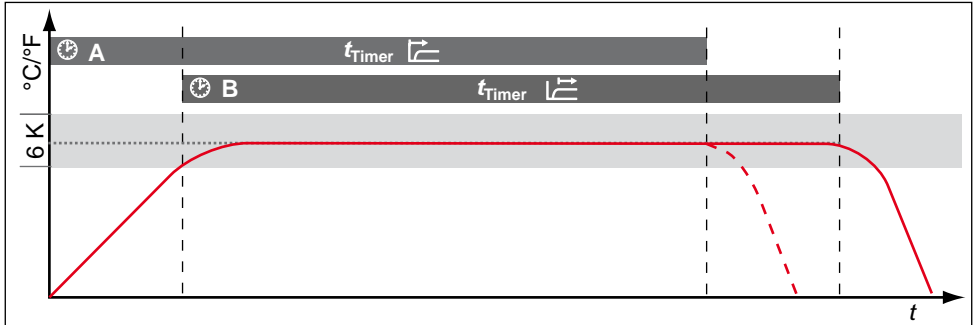

Fig. 27 Timer mode
Here, you can choose whether the digital backwards counter with target time setting (see page 29, timer) should be setpoint-dependent or not – this determines whether the timer should not start until a tolerance band of  $\pm 3$  K around the set temperature is reached (Fig. 27, B) or whether it should start immediately after activation (A).